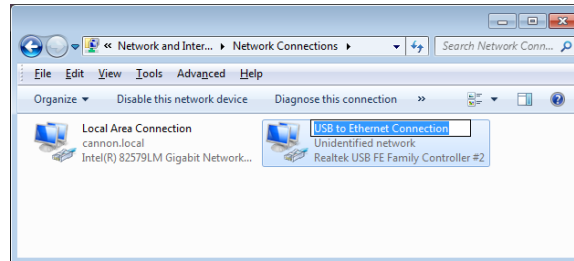

Figure 19 — Network Connections
2. Click **Change adapter settings**. The **Network Connections** window opens. Right-click the device associated with the USB adapter, and rename the connection **USB To Ethernet Connection**. See Figure 19.